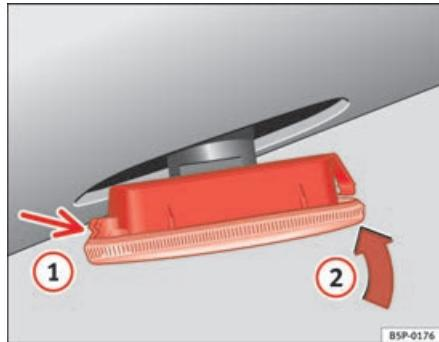

Fig. 161 Side indicators
- First fit the indicator in the opening in the chassis, fastening the tabs ① ⇒ fig. 161, and then fit in the lamp as shown by the arrow ② ⇒ fig. 161. ■